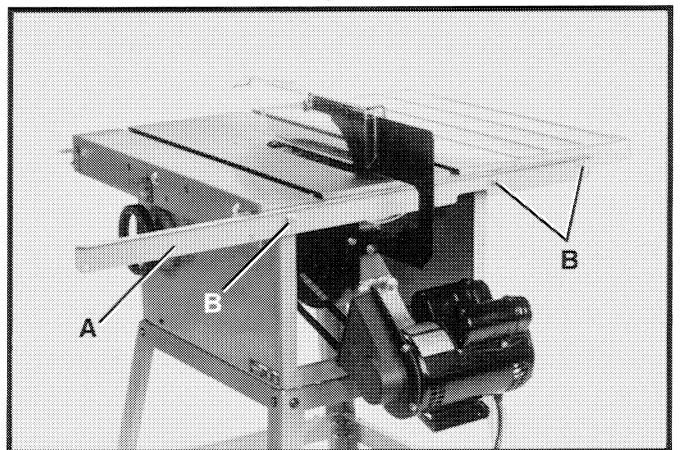

Fig. 31
1. Assemble rear support (A) Fig. 31, to rear of saw table and extension wing using the three 1-1/2" long hex head cap screws (B), 3/8" I.D. flat washers and 3/8"-24 hex nuts. **IMPORTANT:** Make certain top edge of rear support (A) is parallel to saw table and below bottom surface of miter gage slots.